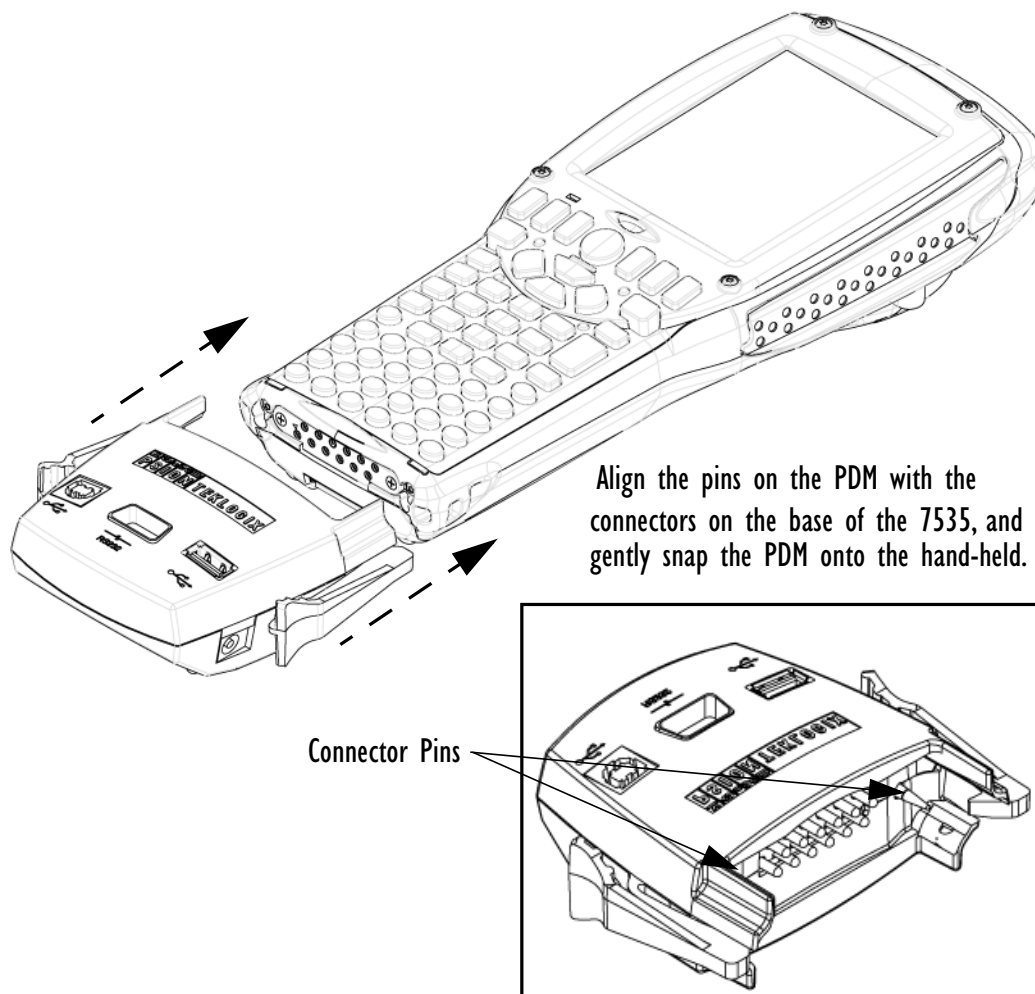

Figure 7.1 Snapping The PDM To The Base Of The 7535
- Gently snap the PDM into place on the base of the unit. Figure 7.1 on page 220 provides a visual representation of how to secure the PDM.